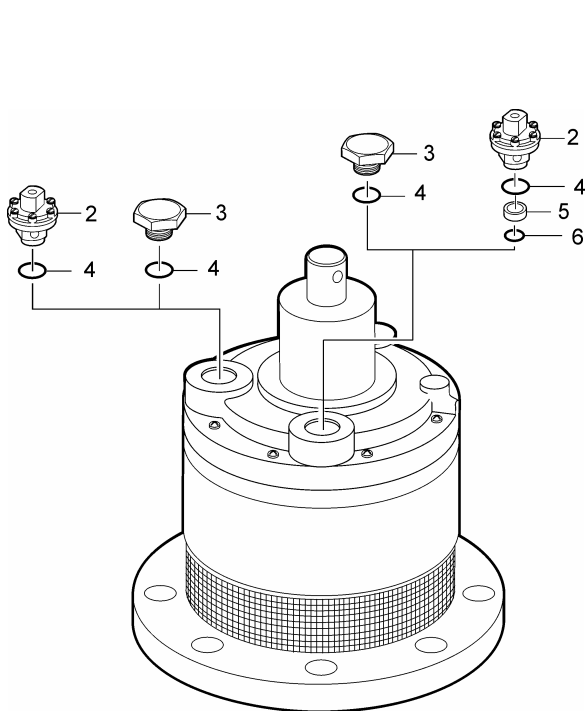

FIGURE 1A
| 4.1 | All valves except as noted - Refer to Figures 1A, 1B, 2A or 2B for exploded views of the unit. | (26) in the face of the piston not be removed. |
Refer to Figures 1A and 1B